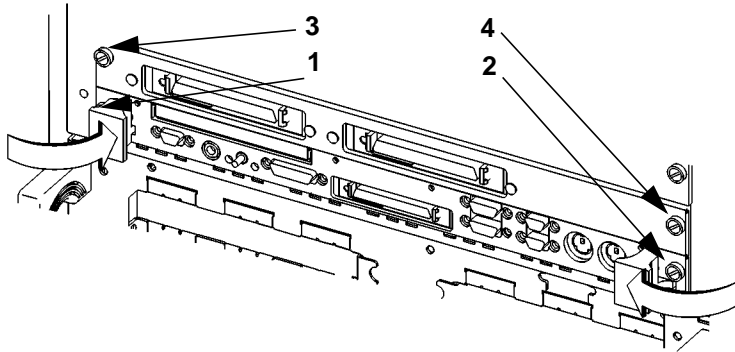

Figure 3-1
- 3 Engage and tighten the captive screws (labeled 1 and 2 in Figure 3-1) at each end of the board computer. These screws hold the computer in the VME card cage.
- 2** Engage all captive screws (labeled 1 and 2, 3 and 4, in Figure 3-1) before tightening each screw of the board computer and the extension panel(s).
- 1 Loosen the captive screws at each end of the board computer that hold the computer in the VME card cage (in Figure 3-1, the screws are labeled 1 and 2 for a single slot board computer, or 1 through 4 for a dual slot board computer).